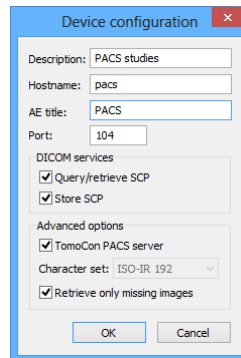

Figure 85 – Device configuration dialog
- To add a new DICOM device as a separate item, click **Add device** button to display the **Device configuration** dialog (Figure 85). Fill in the fields and click **OK** to confirm.
- To add a new DICOM device into a previously defined group, select the group in the list and click **Add device**. The **Device configuration** dialog (Figure 85) is displayed. Fill in the fields and click **OK** to confirm.
- To modify a group or a DICOM device, click **Configure...**. The **Device configuration** dialog is displayed, where the information concerning a group or device can be modified (see Figure 85).